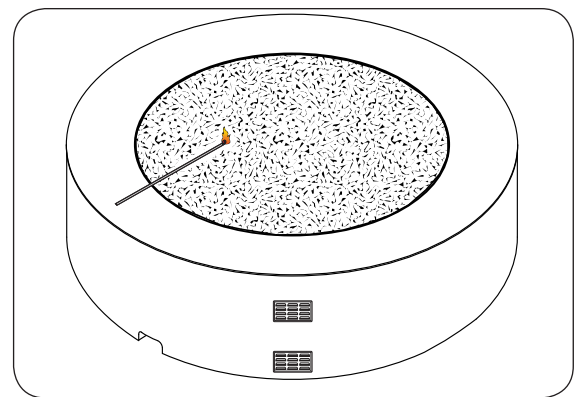

Fig. 31-1
3. Lay a lighted match on the surface of the decorative media near the burner (**do not hold the match in your hand**) (Fig. 31-1).